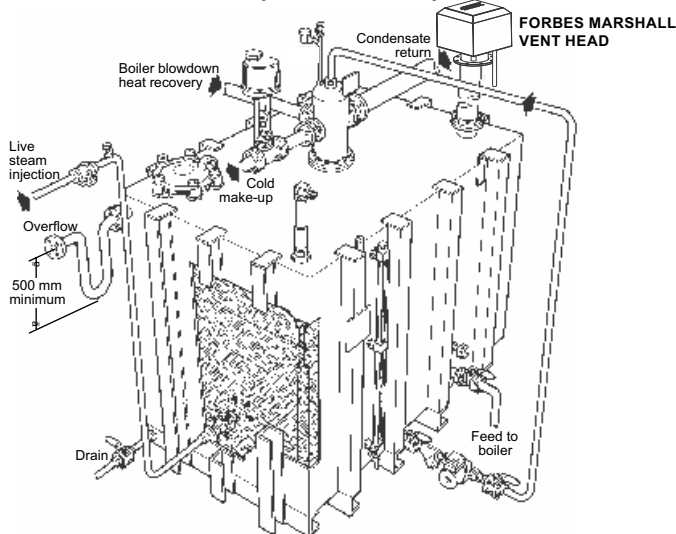

Figure 3: FMHV installation on a feed water tank
5. Installation Guidelines: [Refer figure 3]